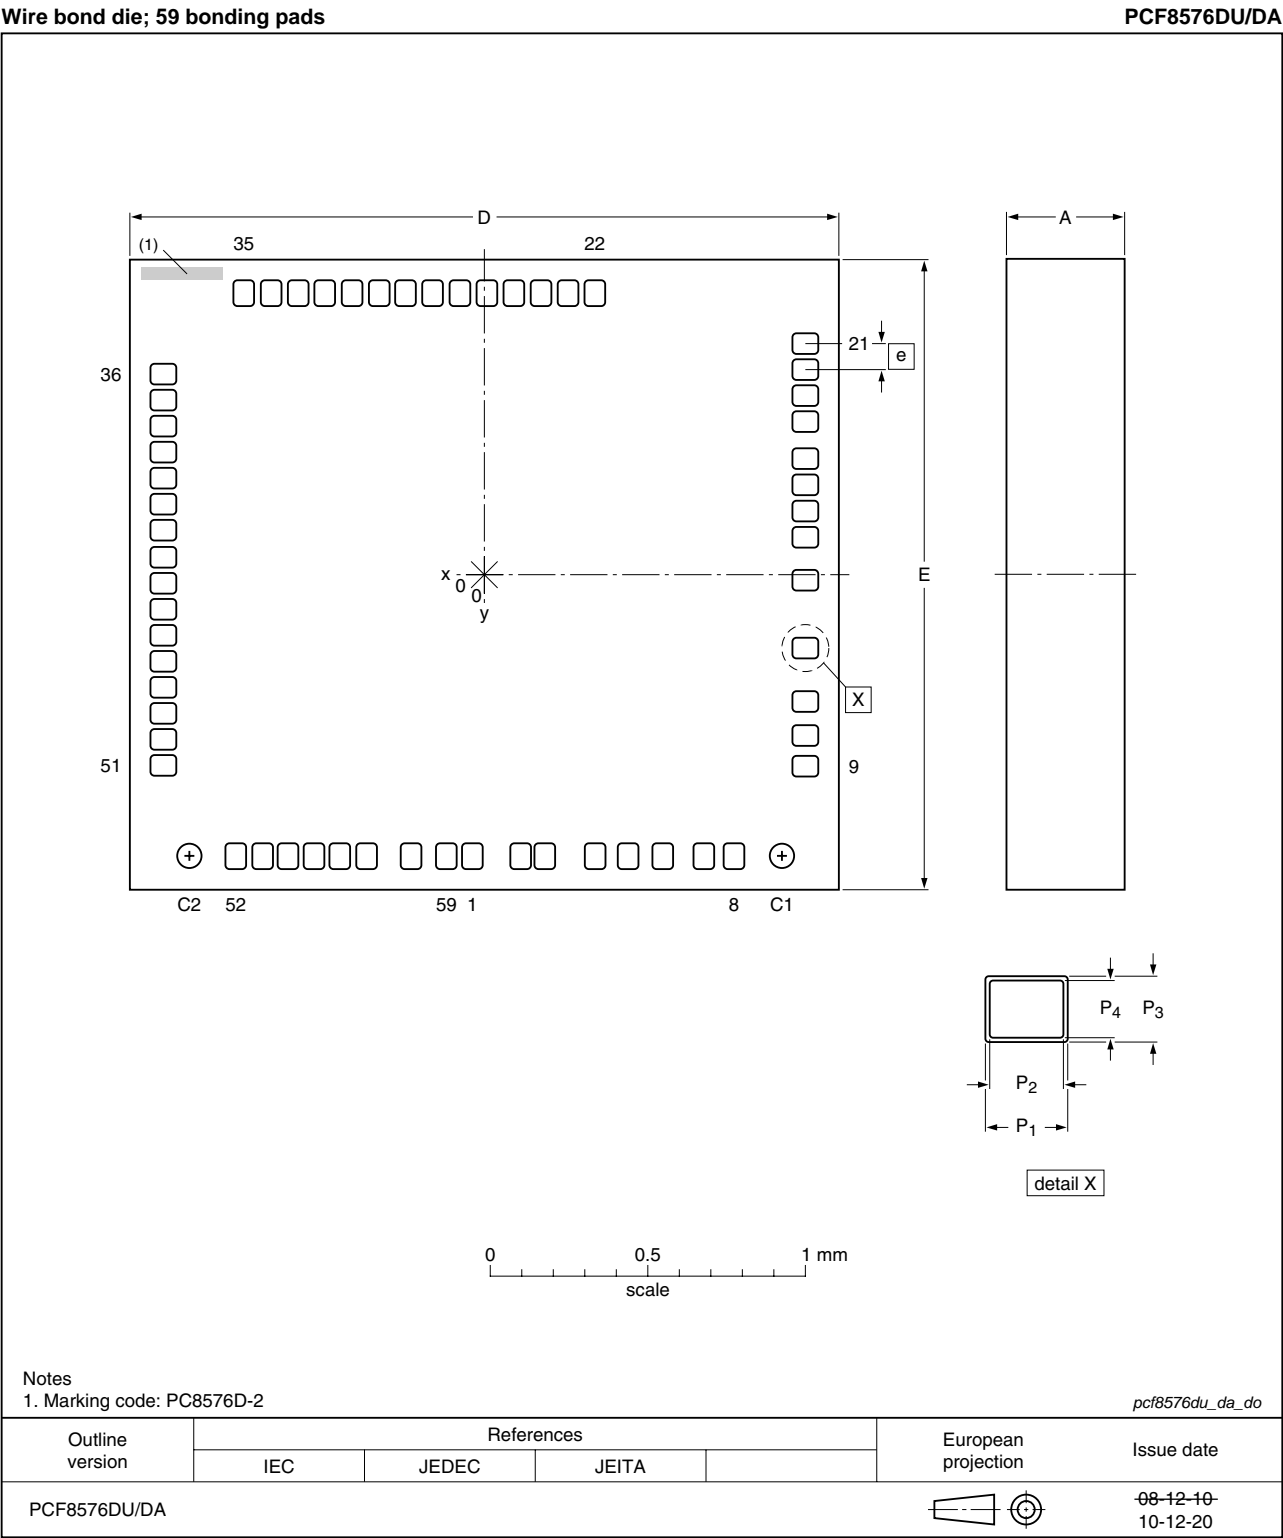
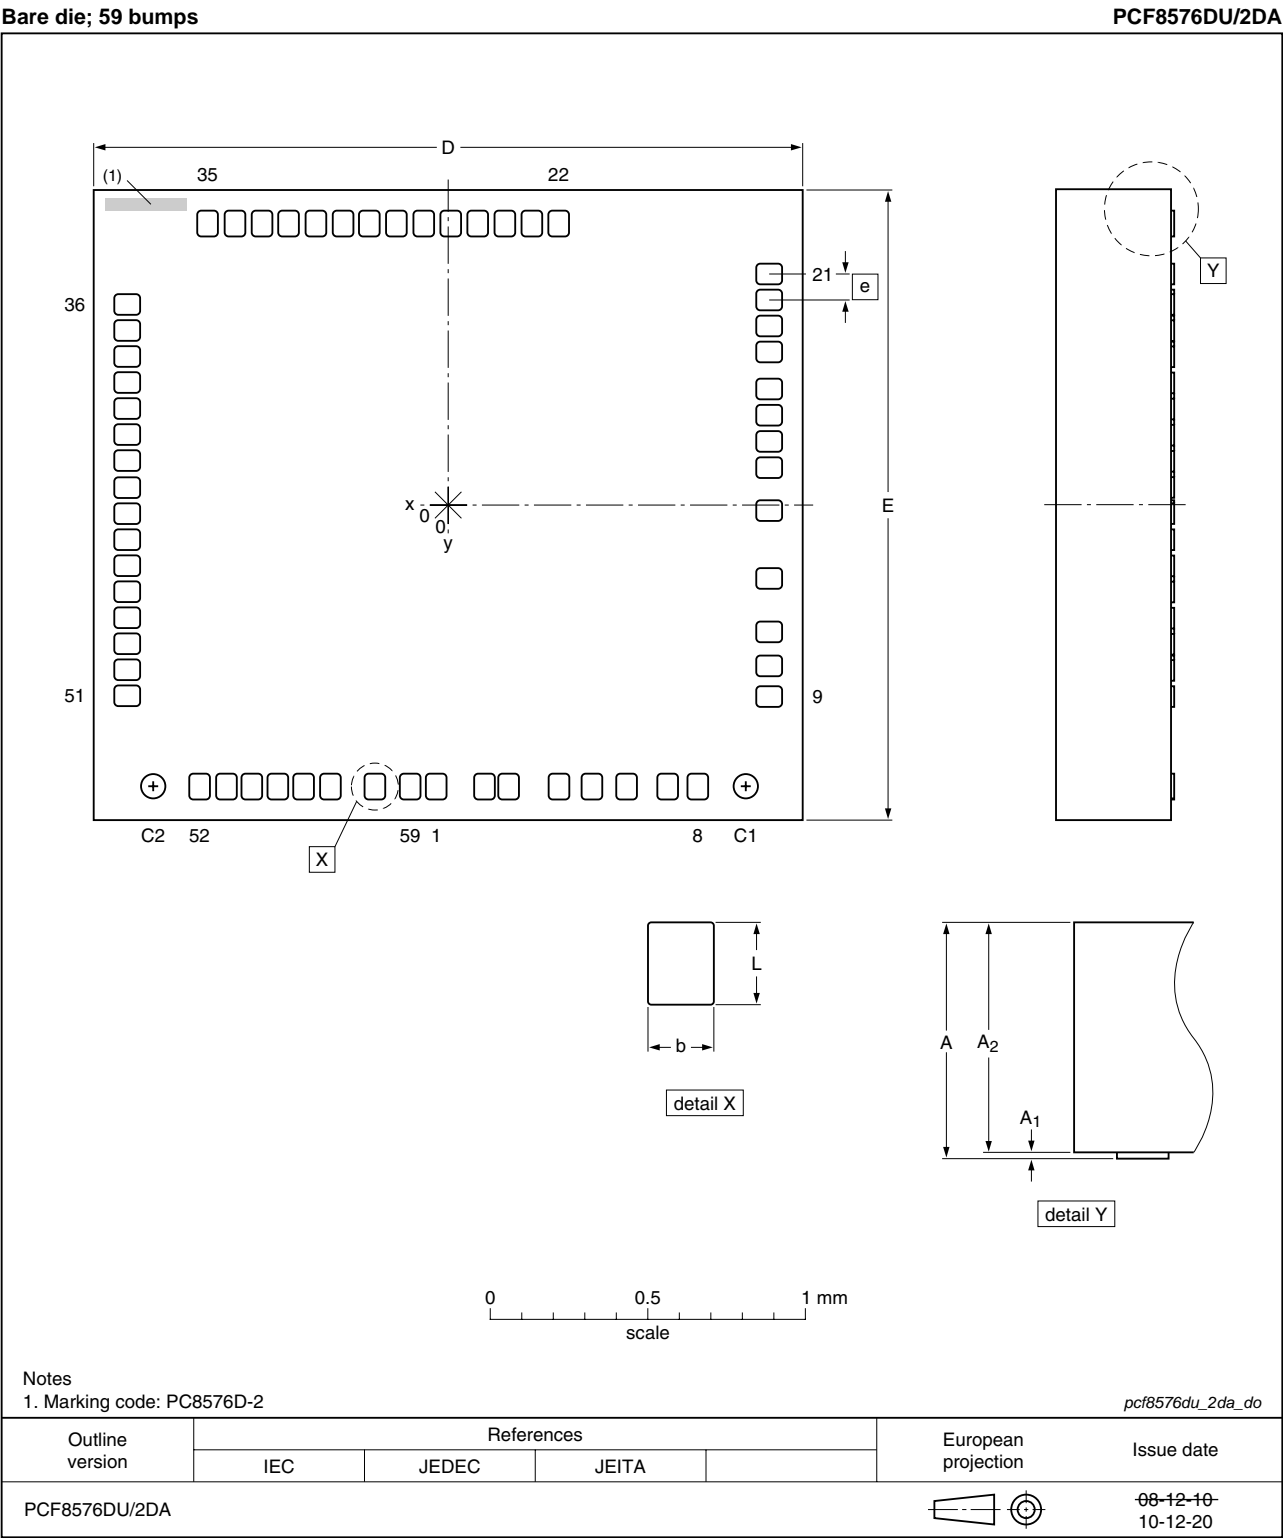

Fig 25. Bare die outline PCF8576DU/DA/2 (for dimensions see Table 19)
Fig 26. Bare die outline PCF8576DU/2DA/2 (for dimensions see Table 20)
**Table 21. Bonding pad location for PCF8576DU/x**All x/y coordinates represent the position of the center of each pad with respect to the center (x/y = 0) of the chip (see Figure 3, Figure 25 and Figure 26).
All x/y coordinates represent the position of the center of each pad with respect to the center (x/y = 0) of the chip (see Figure 3, Figure 25 and Figure 26).
All x/y coordinates represent the position of the center of each alignment mark with respect to the center (x/y = 0) of the chip (see Figure 3, Figure 25 and Figure 26).